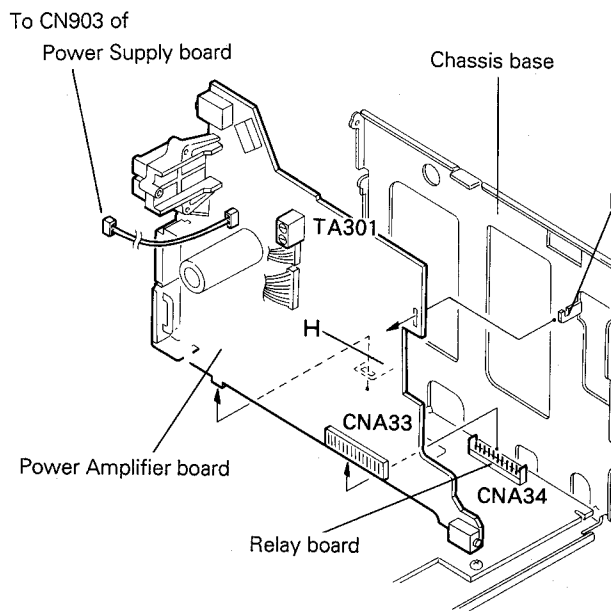

Fig. 7-11
■ Power Amplifier board (Fig. 7-11)